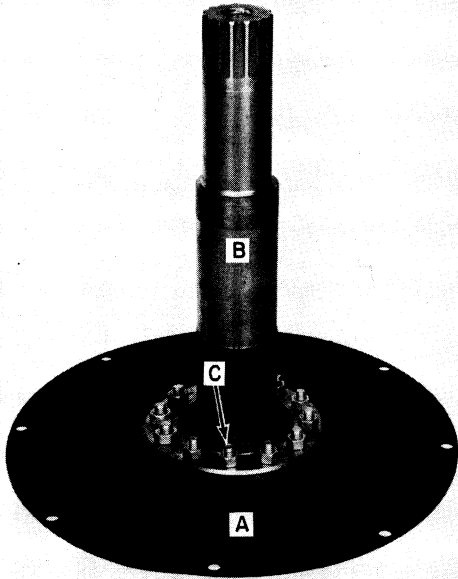

FIGURE 5A-12
5. Flex plate, A, Figure 5A-12, or PTO shaft, B, can be serviced separately by removing the twelve cap screws and nuts, C.